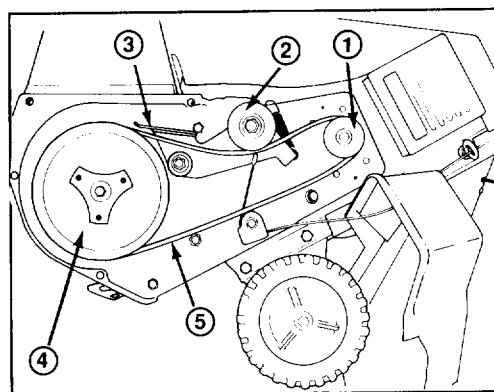

Figure 14
5. REMOVING BELT (Fig. 14)—Slip belt off idler pulley. Push idler pulley downward, and slip belt from rotor pulley, idler pulley, and engine pulley.
6. INSTALLING BELT (Fig. 14)—Loop belt around rotor pulley and engine pulley first without slipping belt between rotor pulley and brake. Next, push idler pulley downward and slide belt between rotor pulley and brake. Release idler pulley, and slip belt under idler pulley.